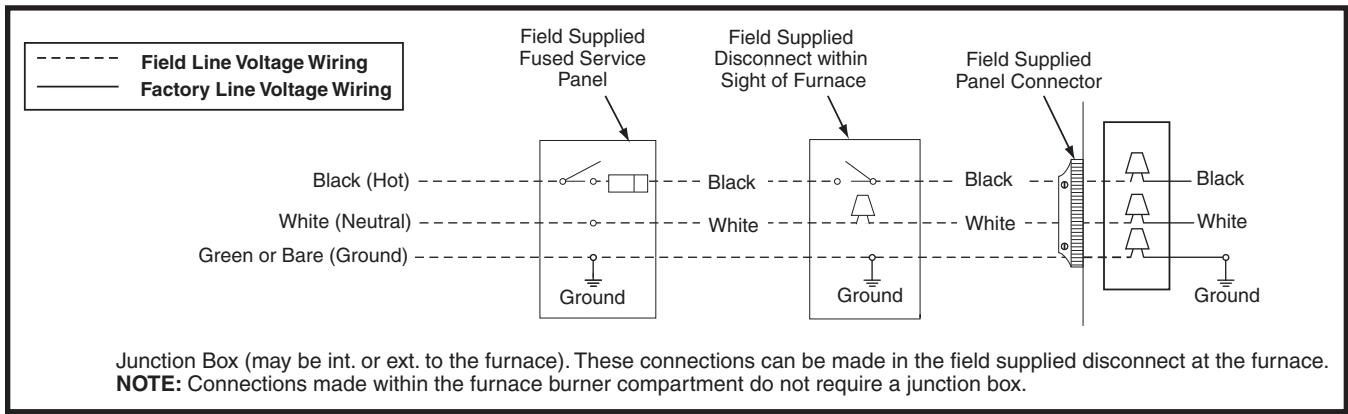

Figure 19. Line Voltage Field Wiring
- An electrical disconnect must be installed readily accessible from and located within sight of the furnace. See Figure 19 or the wiring diagram label inside of the control door. Any other wiring methods must be acceptable to authority having jurisdiction.
- Proper line voltage polarity must be maintained in order for the control system to operate correctly. Verify the incoming neutral line is connected to the white wire and the incoming HOT line is connected to the black wire. The furnace will not operate unless the polarity and ground are properly connected as shown in Figure 19.